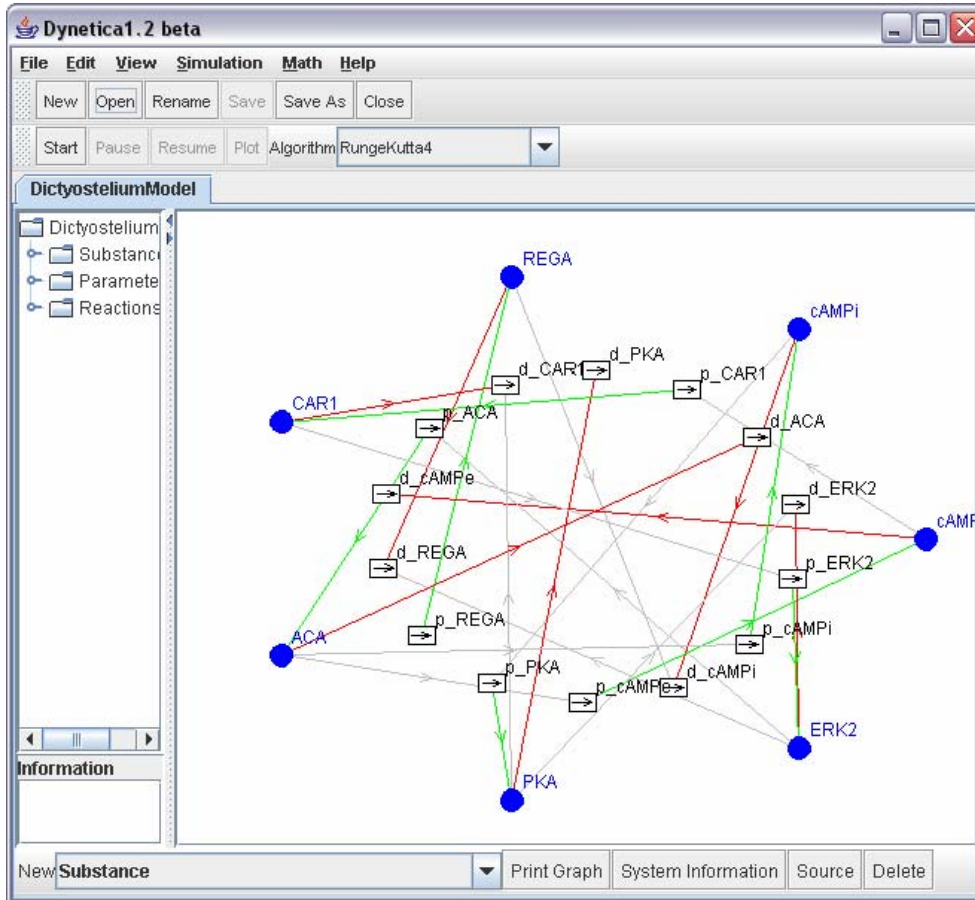
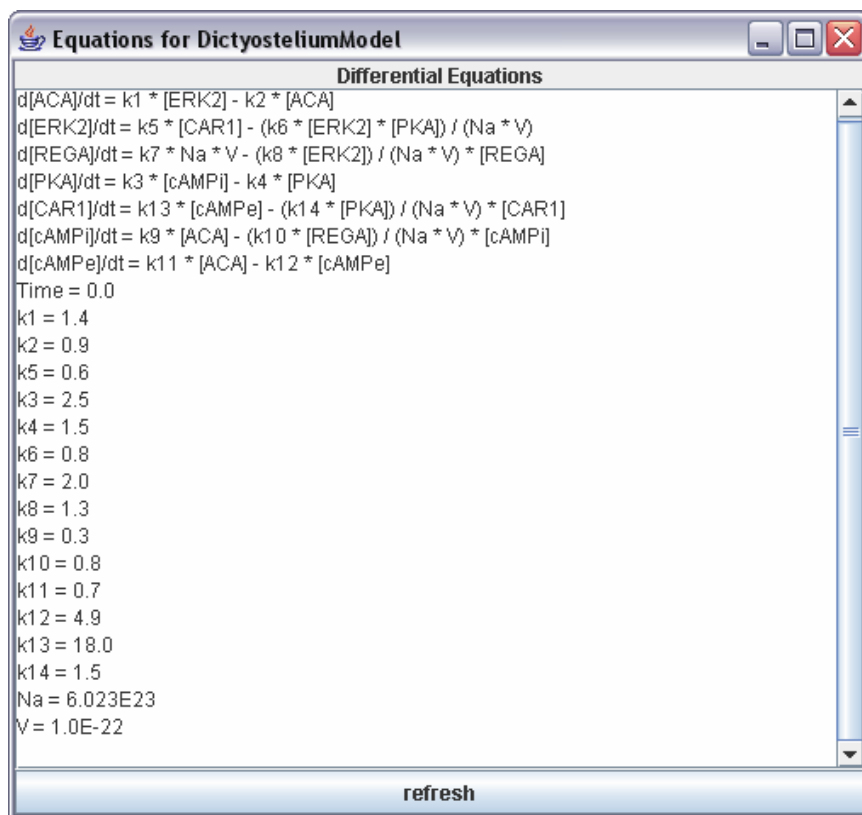

Figure 21. The graphical interface representation of the aggregation stage network model.
Figure 23. Dynetica's window displaying all rate equations and parameter assignments, accessible through the **Math >> Show Equations** option on the Menu Bar.
This model is based on Laub and Loomis, 1998, Mol Biol Cell 9: 3521-32. However, the parameters used here have different values from the published parameters, some of which were in error (W. Loomis, personal communication). Reactions of this network are shown in Table 2, with Dynetica's version of this in Figure 23, while the interface and simulation of the model on Dynetica are given in Figures 21 and 22. With appropriate parameters, this model will generate stable oscillations.
**Show Equations-** opens up a window displaying all rate equations and parameter assignments as defined by the reaction stoichiometrics of the model. This is a useful tool for easily deriving rate equations without going through the trouble of working out each equation to decompose the production and consumption factors for each substance. See Figure 23 under the Dictyostelium aggregation network model for an example.